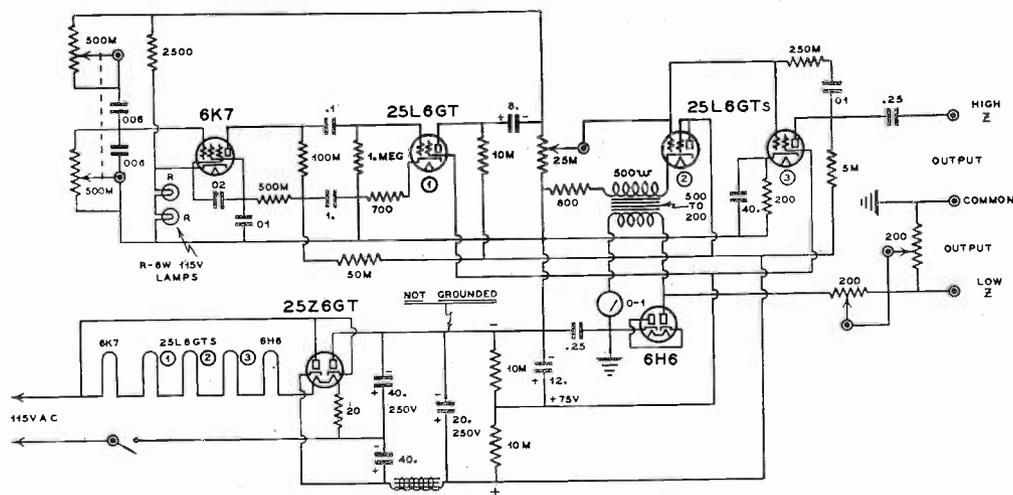

Fig. 1
**A** VERTICAL antenna of almost any length can be connected to a good ground and shunt-excited by means of an inclined conductor. The arrangement shown in Fig. 1 is often used for broadcast transmitters and can be applied with equal success to short-wave service. Power can be coupled into an antenna of either resonant or non-resonant length by means of a small section at the base to serve as a coupling impedance. This impedance can be transformed to the characteristic impedance of a non-resonant line, such as a concentric feeder, by an inclined conductor and a series capacity. The value of  $H$  in the diagram can be any length from one-eighth wave to somewhat more than a half-wave in height. The distances  $h$ ,  $d$ , are approximately equal, and in most cases these distances are approximately one-sixth of that of  $H$ . For connection to a concentric line in a typical quarter-wave antenna,  $h = .035$ , and  $d = .021$  of a full wave. In this case, a terminating resistance at the lower end of the inclined conductor is 75 ohms, and the inductive reactance is 250 ohms. The latter can be cancelled-out by adjusting the variable condenser in series with the feeder to a capacitive reactance of 250 ohms. The capacitive reactance for various lengths of non-resonant antennas ranges from approximately 100 ohms up to 1,500 ohms. The value of capacity required can be calculated for any desired frequency from the expression:
The R/C oscillator illustrated in Fig. 1 incorporates a dual audio volume control as the variable element for changing the frequency over the range of from 60- to 20,000-cycles-per-second. The regenerative feedback circuit consists of a *Wien Bridge* with two  $\frac{1}{2}$ -megohm variable resistors and two .006 $\mu$ f. mica condensers. The *Wien Bridge* is very selective for different audio frequencies and makes an excellent frequency-determining circuit for R/C oscillators. The frequency can be changed by simultaneously varying either the two resistors or the two condensers in the *Wien Bridge*. The other two arms of the bridge are made up of a pair of small *Mazda* lamps in series, and a number of fixed resistors.
The simplest form of R/C oscillator, shown in Fig. 1, usually has a very slight degree of backlash in the variable resistor settings; this variation amounts to nearly one degree of rotation in a total arc of approximately 200 degrees. For this reason the dial calibration is not quite as accurate as in the case of an R/C oscillator with variable condensers included in the circuit, as shown in Fig. 2, yet for general purposes the fre-
frequency setting of the simple oscillator, Fig. 1, is sufficiently accurate. These oscillators are extremely useful for many laboratory measurements involving bridge circuits, and for determining the frequency characteristic of audio amplifiers and loud speakers.
Either form of R/C oscillator, as diagrammed, may be connected to output audio amplifiers in order to isolate the frequency-determining circuit from the output circuit. In Fig. 1, two separate audio amplifiers are connected to the oscillator section through a 25,000-ohm volume control. One beam-power 25L6GT tube is connected as a moderately-high-gain tetrode amplifier for relatively high output into load impedances as high as 5,000- or 10,000-ohms. This stage has some shunt inverse feed-back connected from plate to grid, in order to improve the frequency responses over the range of from 60- to 20,000-cycles-per-second. Many audio-frequency measurements require a moderately low output impedance from the oscil-
lator, and this impedance can be readily obtained by using a triode with cathode output coupling. The screen and plates of the 25L6GT are tied to the  $+B$ , and the output is taken from the cathode circuit. This provides unity inverse feed-back with the cathode impedance ranging from 200- to 1,000-ohms, depending upon the type of tube chosen; tubes with very high mutual conductance have desirable low values of cathode output impedance. The output circuit has no appreciable effect upon the grid circuit insofar as circuit reaction is concerned, since the grid circuit has a very high input impedance and is similar to an infinite-impedance detector of the type used in high-quality broadcast receivers. The cathode can be coupled through a relatively small transformer, such as a 500- to 200-ohm line transformer, into an attenuator—as shown in Fig. 1. A simple vacuum-tube voltmeter using a 6H6 with its diodes in series, and a 0-1-ma. d.c. milliammeter will indicate the value of audio voltage across the constant input impedance attenuator. This attenuator consists of two 200-ohm potentiometers on a common shaft; one is in series with the output line, the other in shunt. As the resistance of one is increased, thereby maintaining a constant impedance towards the cathode circuit. This attenuator can be calibrated so as to read output voltages when the output circuit is connected into the high-impedance load. Calibration for low-impedance loads will still be sufficiently accurate for general measurements.
one frequency range and a multiplier of 10 or 1/10 used on the other two ranges. The R/C oscillator diagrammed in Fig. 1 is continuously variable over the frequency range of from approximately 60 cycles to 20,000 cycles. Both oscillators have a pair of G.E. 6-watt, 115-volt miniature Mazda lamps in series with the cathode of the first oscillator tube as part of the degenerative circuit. The amplitude of oscillation can be adjusted in any particular design by changing the value of fixed cathode resistance in the 25L6GT second oscillator tube. This resistance can be chosen so as to provide pure sine-wave output, as indicated on an external oscilloscope. This is a simple method for adjusting the degenerative feed-back to any desired value for a particular set of circuit constants, or physical layout of parts. Too much degenerative feed-back will prevent oscillation or cause unstable output voltage, as evidenced by a slow variation in audio-frequency output voltage. Insufficient degenerative feed-back will cause the output voltage to depart from the sine-wave condition, due to the presence of harmonics. With no degenerative feed-back the output is extremely peaked, varying from sharp impulses, to saw-tooth wave form, then to square-wave form, and finally to sine-wave form.
In the circuit of Fig. 1, practically pure square-wave output voltage is obtained with only a single Mazda lamp in the cathode,
but with a different value of cathode resistance in the second oscillator tube than that shown in Fig. 1. Square-wave output is often useful for making audio-frequency and television measurements. This type of oscillator can be used to good advantage for these purposes by changing the two cathode resistors.
cathode-coupled output amplifier in either oscillator illustrated provides no audio amplification but acts simply as an isolating amplifier and impedance inverter. The ladder-type of attenuator with very low impedance output can be connected into any output circuit impedance desired. This same attenuator circuit can be used in place of the output circuit, or circuits, shown in the oscillator of Fig. 1.